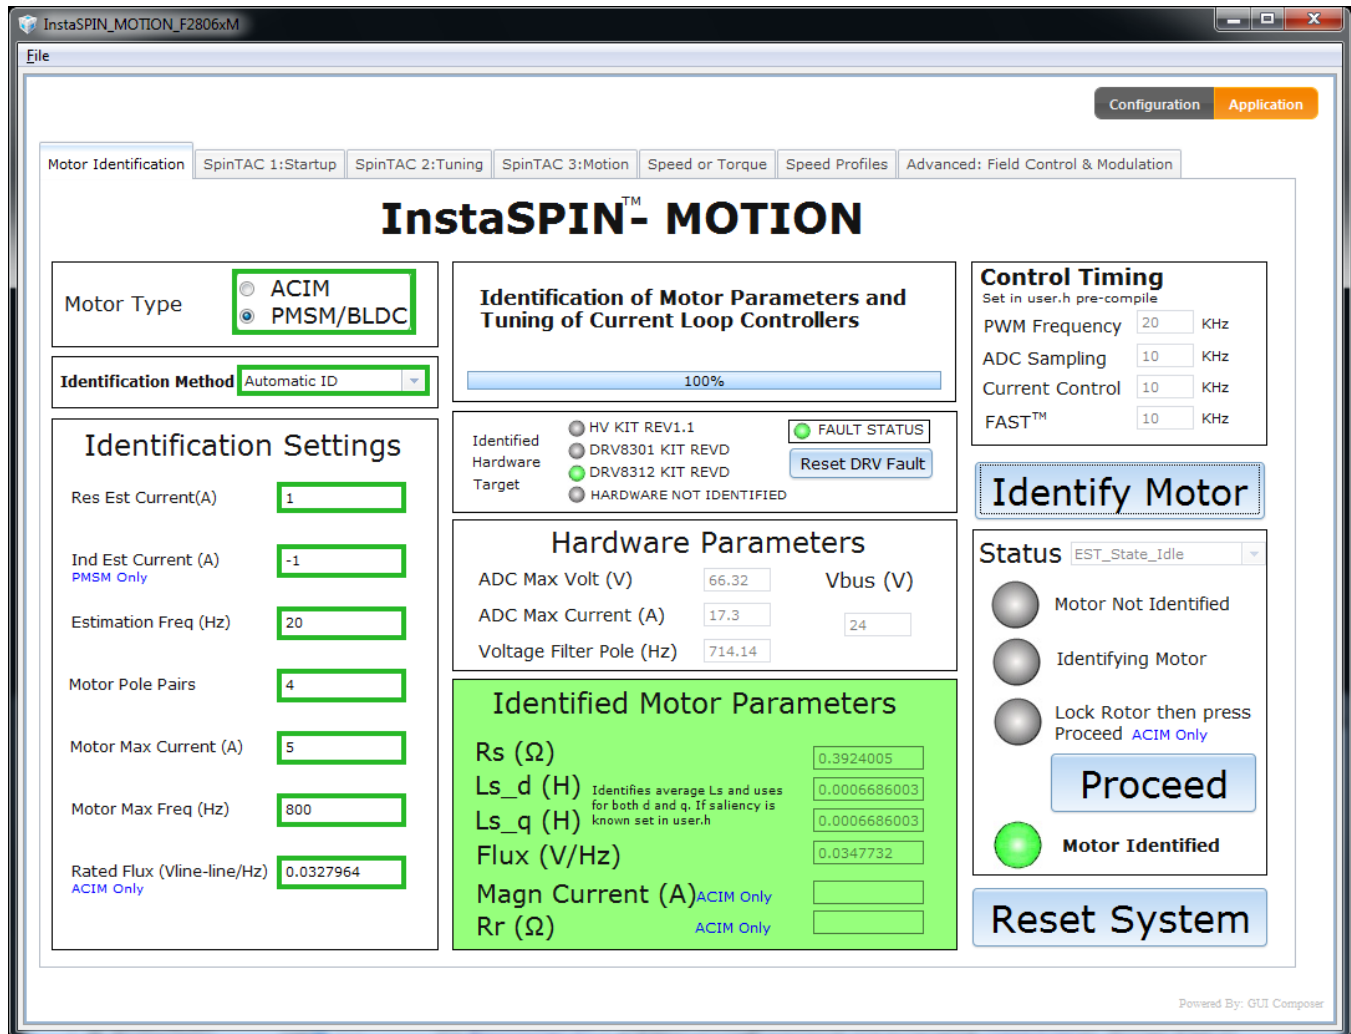

Figure 2-1. InstaSPIN-MOTION GUI Using Motor Identification Tab
Step 1. Identify the motor parameters (Figure 2-1).